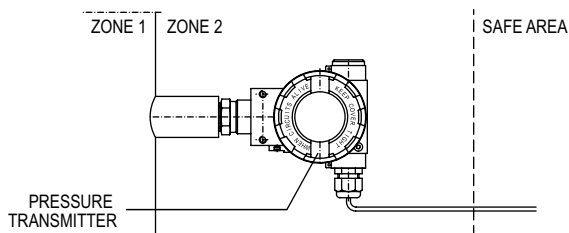

Figure 1A
The ATEX category 1/2G (1/2D) and IECEx Equipment Protection Level (EPL) Ga/Gb (Da/Db) means that the transmitter may be installed within Type 1 (21) or Type 2 (22) hazardous zones. The transmitter process connections may connect to a Type 0 (20) zone type (see the Figure 1a below for an example). The category 2G (2D) and EPL Gb (Db) means that the transmitter together with process connections may be installed within a Type 1 (21) or Type 2 (22) hazardous zone